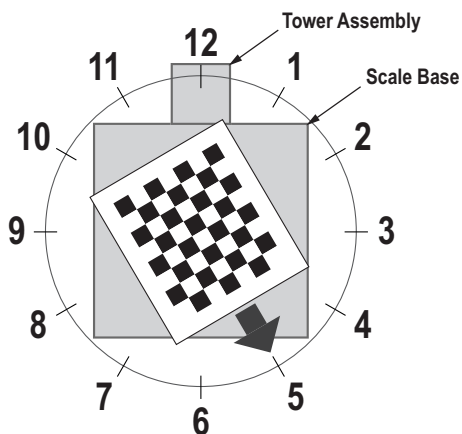

Figure 5-8. Rotate to 5 o'clock
- Align calibration object so the cross hairs are centered. Rotate the calibration object to 5 o'clock with the tower assembly being at 12 o'clock (Figure 5-8).